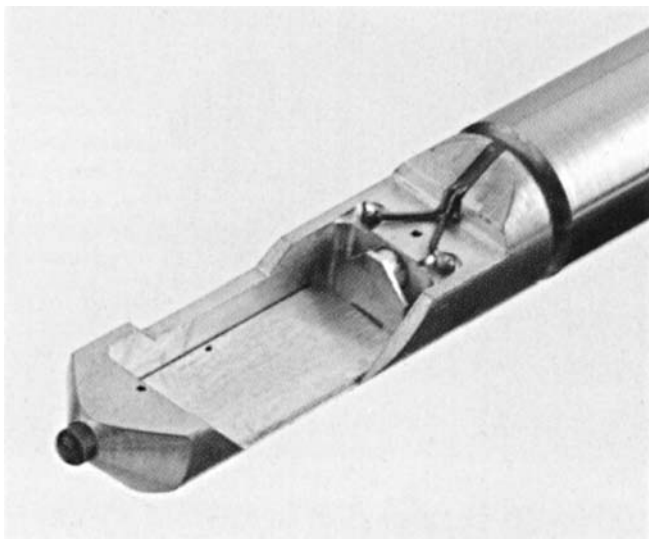

FIGURE 8.10. A bulk holder for large specimens.
- *Bulk specimen holder:* This holder is used for surface imaging and diffraction, e.g., using SE or BSE in a STEM or for reflection diffraction and imaging in a TEM (see Chapter 29 for more about these techniques). The bulk specimen is larger than the traditional 3-mm disk (usually $\sim 10\text{ mm} \times 5\text{ mm}$) so if you can create a thin specimen of these dimensions, the bulk holder will allow you to sample more of your material at one time (Figure 8.10).